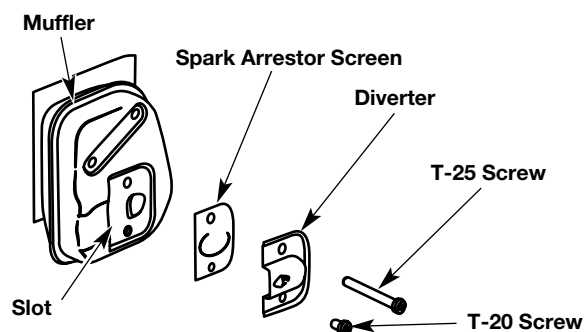

Fig. 57
2. With a flat blade screwdriver or Torx T-20 bit and a T-25 bit, remove the screws attaching the spark arrestor cover to the muffler (Fig. 57).